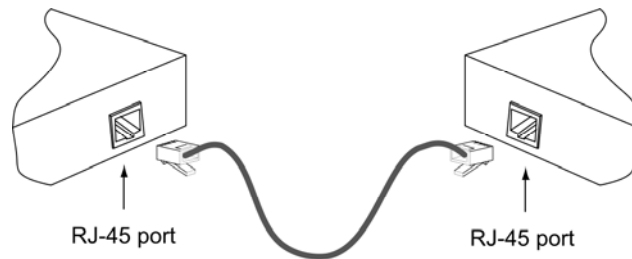

Figure 15: Copper Cable Installation
3.	Connect the RJ-45 connector at the other end of the cable to the 10/100 or 10/100/1000Base-T RJ-45 port on the other Device (switch, workstation, etc.). See Figure 15.